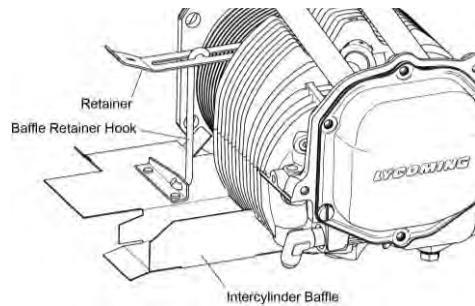

Figure 4
- (1) Turn the baffle retainer hook to disengage the retainer on the intercylinder baffle (Figure 4).
- (2) Remove the intercylinder baffle and hook from between the cylinders.